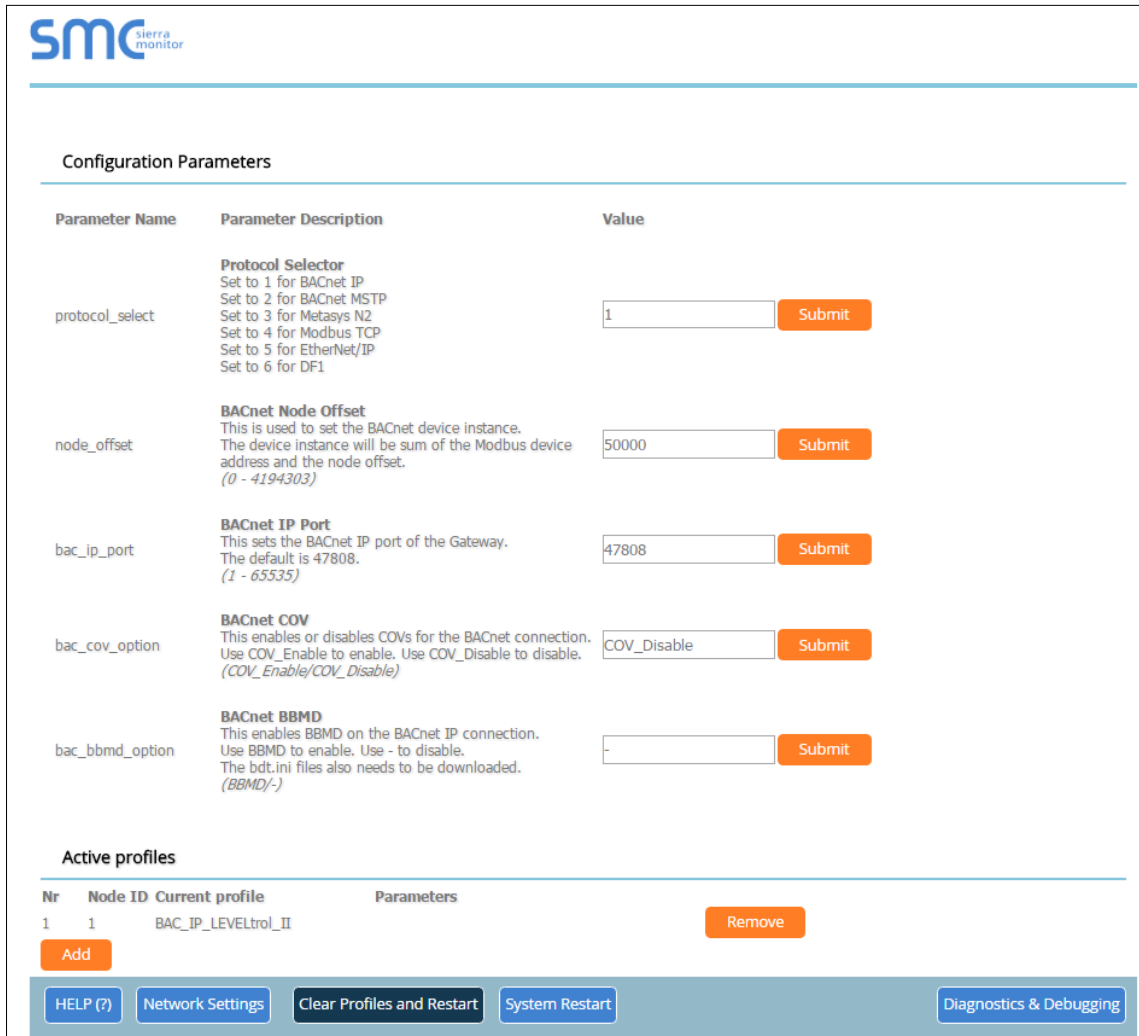

Figure 12: Web Configurator Screen with Active Profiles
- The Web Configurator is displayed as the landing page. (**Figure 12**)